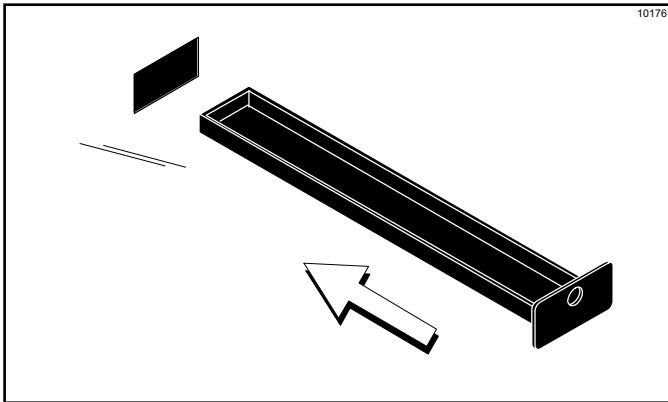

Figure 6-23
10. Slide the two short drip pans into the holes in the back panel. Slide the two long drip pans into the holes in the side panels. (See Figure 6-23.)